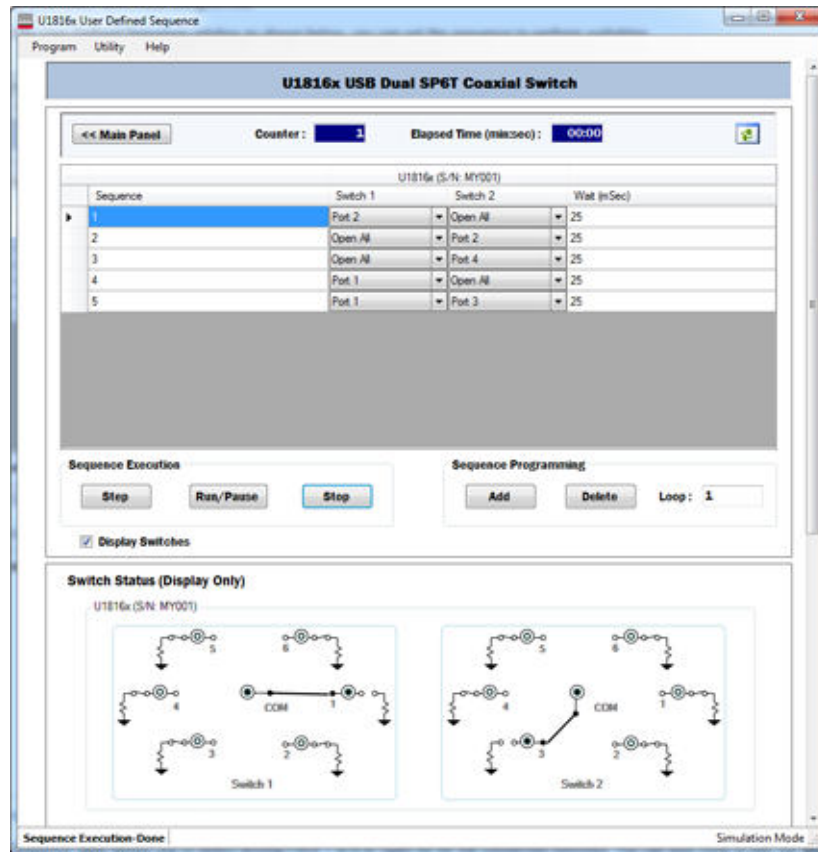

Figure 4-5 User Defined Sequence window
- You can set the sequence to perform switching in the U1816x User Defined Sequence window as shown in Figure 4-5. The Sequence table allows you to select among Ports 1 to 6 or Open All for the connected switches. You can also double-click to edit the **Sequence** field or specify the time delay for each sequence at the **Wait (mSec)** field.